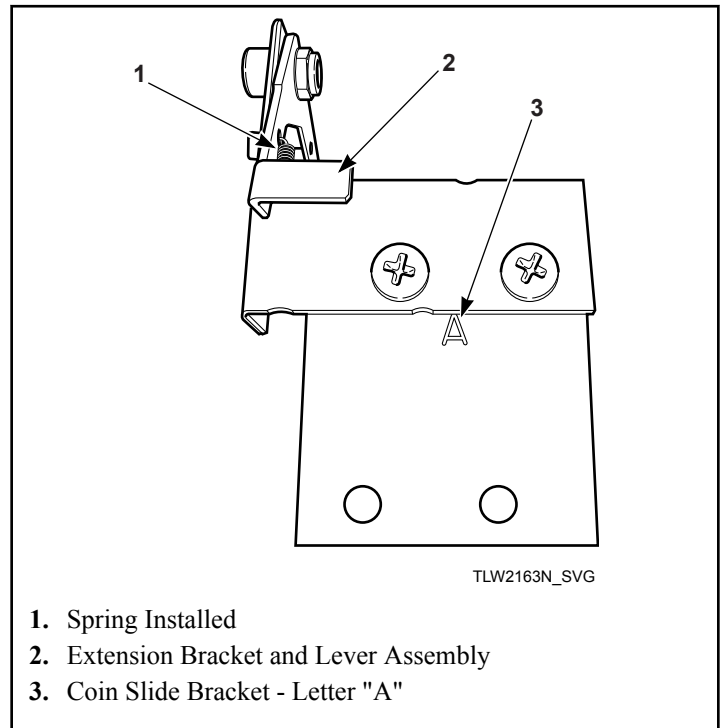

Figure 15
- Install extension bracket and lever assembly onto coin slide bracket using two screws and locknuts. Refer to *Figure 15*.
**IMPORTANT: Install coin slide bracket with side marked "A" facing up and toward extension bracket and lever assembly. Refer to *Figure 15*.**